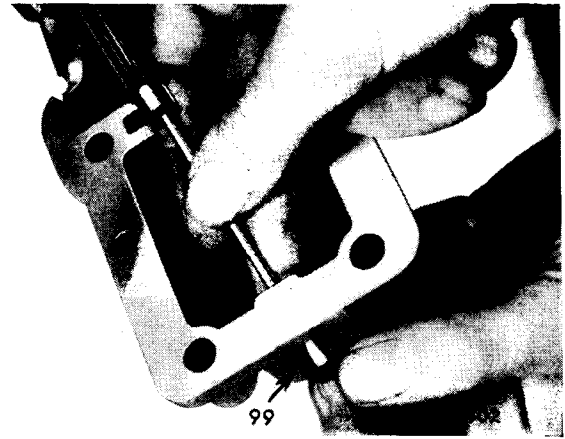

Fig. 14. Removing "O" rings from extension
Remove the rubber "O" rings (89) and (99) from the extension housing bores (Fig. 14).